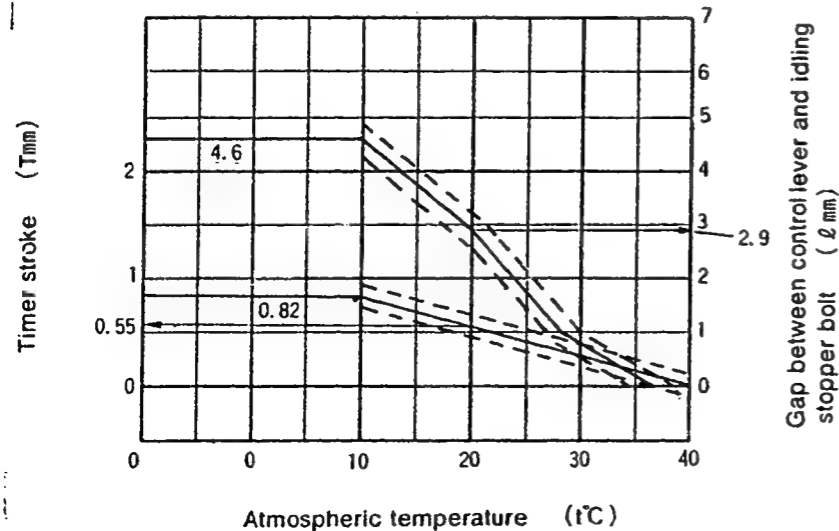

Fig. 2
1. Calculate the timer stroke from Fig. 2 according to the atmospheric temperature at the time of adjustment.
Formula for calculating Fig. 2 $10 \leq t \leq 20$ $T = -0.027t + 1.09$
1. Calculate the block gauge dimension $l \pm 0.05$ mm from Fig. 2 according to the atmospheric temperature at the time of adjustment.
2. Insert the block gauge (thickness gauge) selected in Step(1) above between the bracket and the idling stopper bolt.